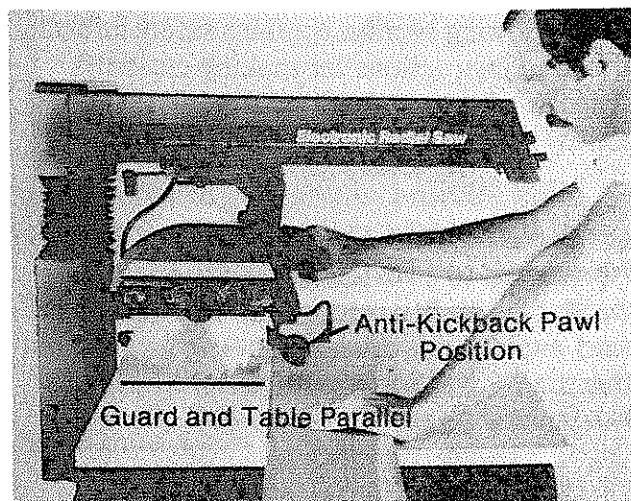

Fig. 145 - Crosscut Blade Guard and Body Position
**WARNING:** To reduce the risk of contact with the upper half of the blade and keep the workpiece from jamming in the guard, set the blade guard in the horizontal position. Fig. 145.
▲ WARNING: The blade guard must be horizontal to provide protection from contact with the upper half of the blade and avoid the workpiece being jammed in the blade. Set the blade guard in the horizontal position. Fig. 145